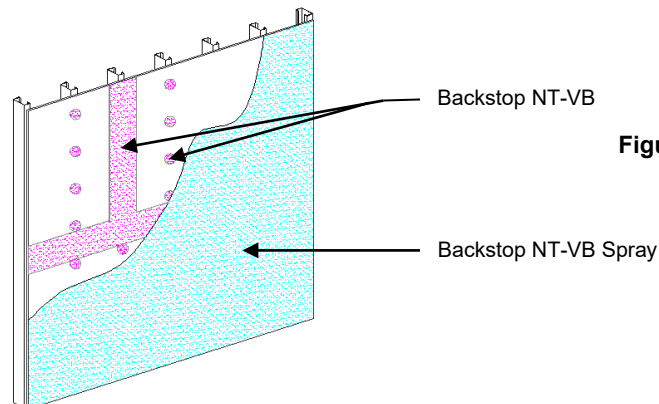

Figure 4
- 1) Backstop NT-VB Spray material should be applied in a uniform, continuous film at the recommended coverage rate free of voids and pinholes – Figure 4.